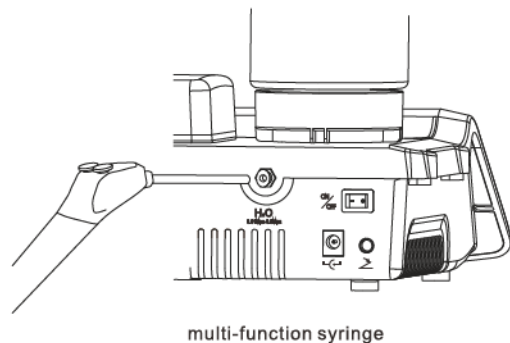

FIGURE 11
- c) Unscrew the cap on the electric-magnetic valve, and Uninstall the electric-magnetic valve as shown on Figure 11;
- e) Install the parts as shown on the figure 11.